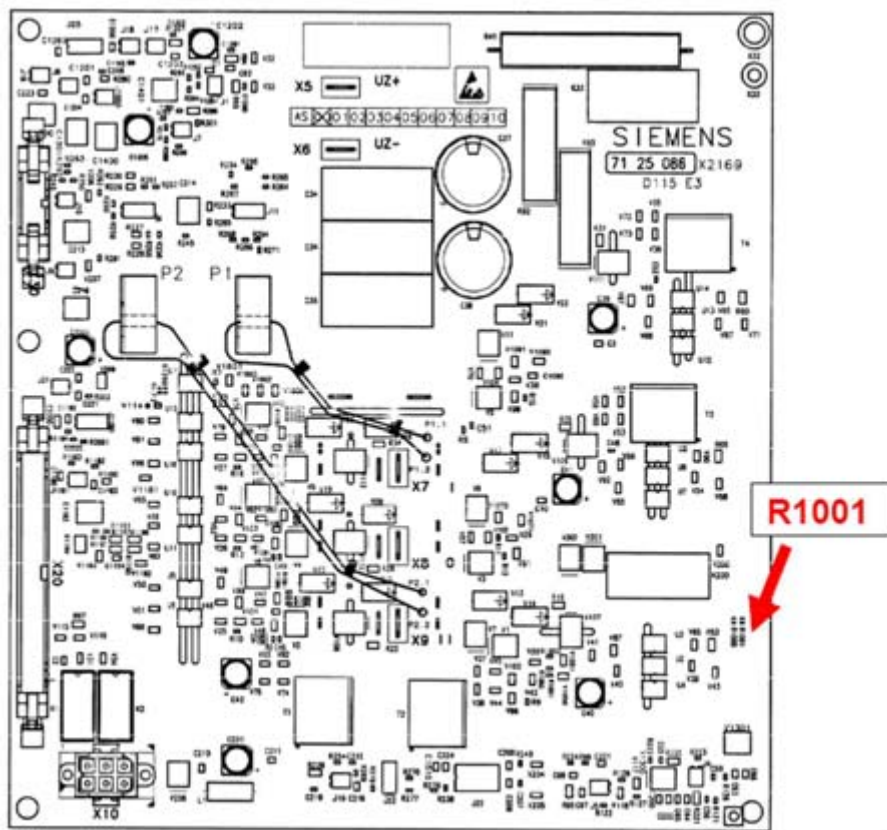

Fig. 6: D115, Part No.: 7125086: R1001
- With the D100, Part No.: 3775256 and 3752370, the SMD resistance, R1001 (0 Ohm) (Fig. 6 / p. 17), must be removed on the D115 board (unsolder).